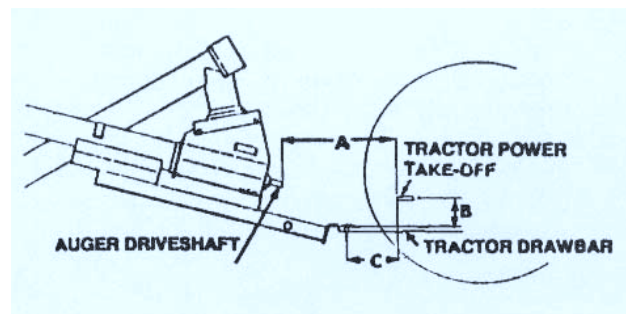

Fig. 3 ATTACHING DIMENSIONS
6. Check the auger to tractor mounting dimensions per the drawing prior to attaching. **See Fig. 3.** The auger is designed to be attached to a tractor during any operation including transporting, moving, raising, lowering or working.